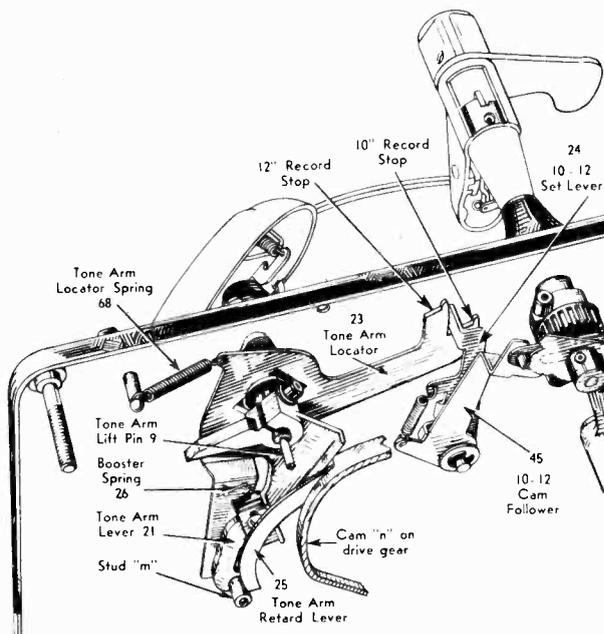

FIG. 8. CUTAWAY—BOTTOM VIEW
4. Cam surface "j" moves the tone arm latch lever assembly (22) so as to unlatch the tone arm lever (21) at point "k". Thereafter, the stud "m" on the tone arm lever follows the receding cam surface "n", which is part of the drive gear; this is shown in Figure 8.
5. Spring pressure from tone arm locator (23) moves the tone arm lever (21) and the tone arm in toward the record.
The presence of a 10" or 12" record on the selector arms determines the point at which the tone arm locator (23) stops in contact with the 10-12 set lever (24). Fig. 8 shows 10" and 12" record stops. (See page 10 Fig. 12 for further description.)
6. The tone arm retard lever (25) contacts stud "m" and holds it in position during the time of lowering the needle on the record. (See page 18 on retard lever.)
7. Tone arm lift pin (9) follows vertical cam on drive gear and lowers tone arm to the record. After the needle has touched the record, the booster spring (26) exerts a slight pressure, causing the needle to enter the starting groove. (See page 19 on booster spring action.)
The engagement of the 10-12 set lever, with the tone arm locator, determines the indexing of the tone arm. This engagement must be such that the hook on the tone arm locator prevents manual changing of the setting. All parts above must return freely. (See Fig. 8.)